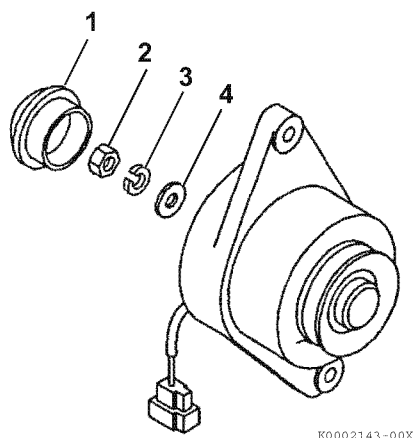

Figure 11-24
1. Remove the rear cover (Figure 11-24, (1)).
2. Remove the nut (Figure 11-24, (2)), lock washer (Figure 11-24, (3)) and flat washer (Figure 11-24, (4)).